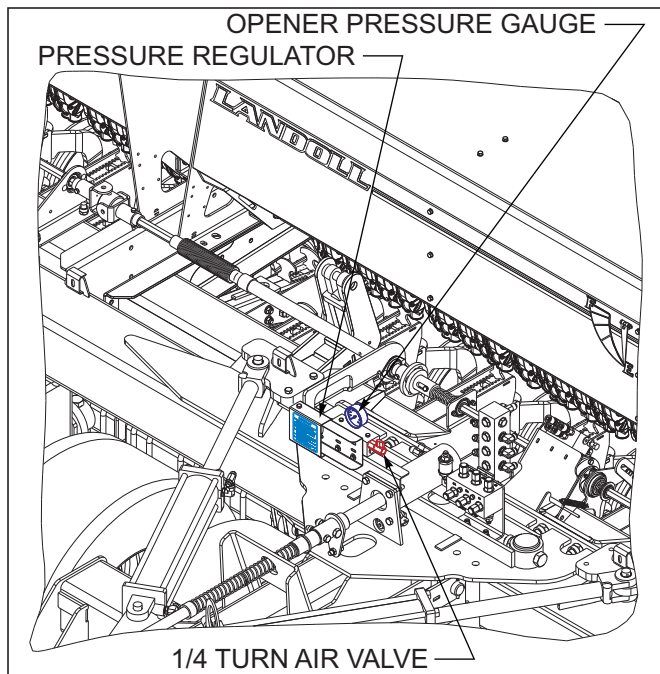
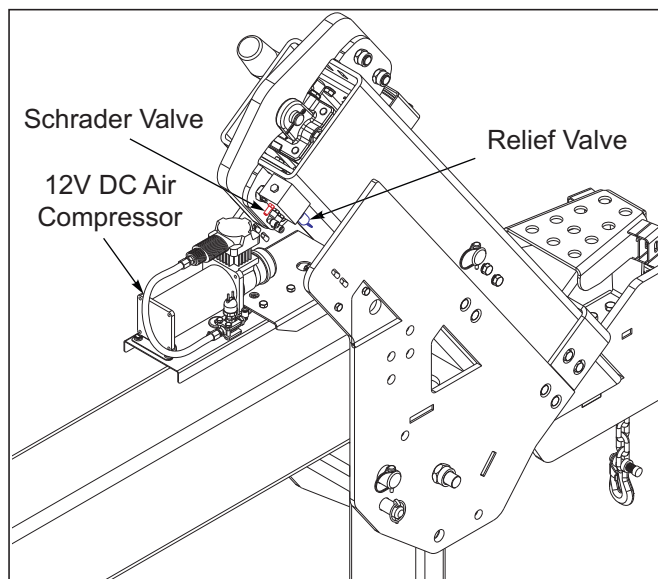

Figure 4-9: Air System Pressure
Figure 4-10: Schrader/Relief Valve
1. Air to the openers is supplied by the drill air compressor *See Figure 4-10*. System air pressure is adjusted at the center frame *See Figure 4-9* with the pressure regulator. Opener operating air pressure is read at the gauge located on the air manifold on front of hitch.
7. System pressure should not exceed 100 psi. This is the maximum recommended working pressure the air springs are rated for. This will provide maximum down pressure for the row units. A system relief valve *See Figure 4-9* is installed at the front of the hitch to protect the system from excessive pressure. Do not remove or adjust the relief valve or damage to the air system may occur.
8. A schrader valve is located on the air manifold at the front of the drill *See Figure 4-10*. This allows air to be added to the system from an external air source (shop air). This is helpful when initially charging the air system, or when making large changes in system pressure.